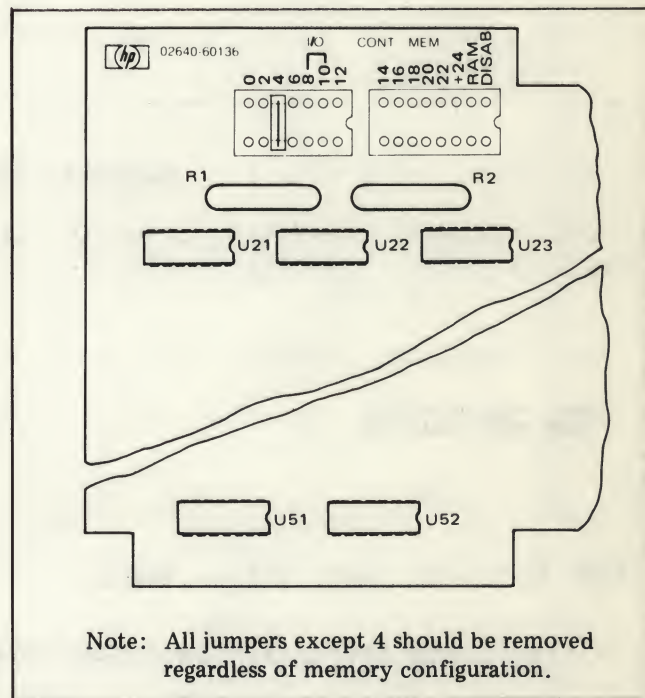

Figure 7-36. Second Control Memory PCA Jumper Configurations (HP 2641A)
- c. The second Control Memory PCA jumper and ROM socket configuration is shown in figure 7-36.